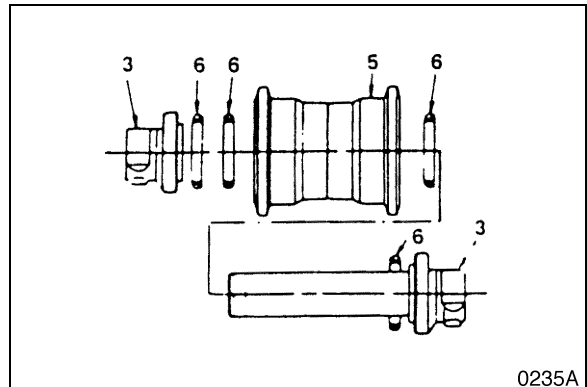

Figure 32
4. Detach O-rings (2, Figure 32) from the axle.
5. Separate group seals (6, Figure 32) from the collar and roller (5).
6. Detach collar (3, Figure 32) and O-rings (2) from the axle, using a press.